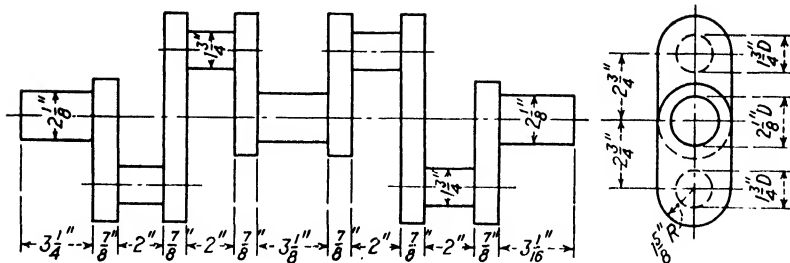

Fig. 97.—Crankshaft.
2. Find the over-all length and height of the crankshaft in Fig. 97.
3. Find the weight of the steel crankshaft in Fig. 97.